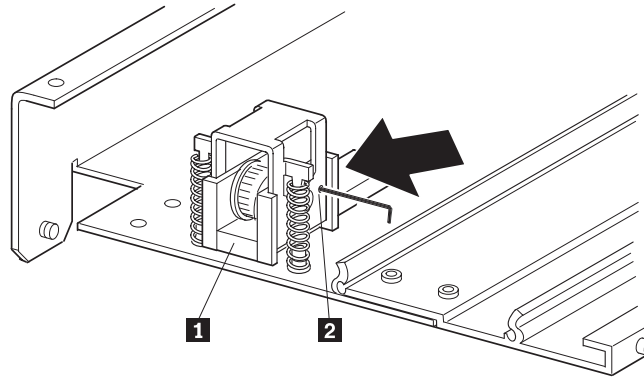

Figure 72. Tensioner ramp/idler pulley zero point
3. On the tensioner ramp/idler pulley base of the primary chassis, compress the springs until the holes in the tensioner ramp are aligned with the holes in the base of the tensioner, and insert a 0.05 in. allen wrench through the holes as shown in Figure 72 on page 78. This sets the idler pulley to the zero position.